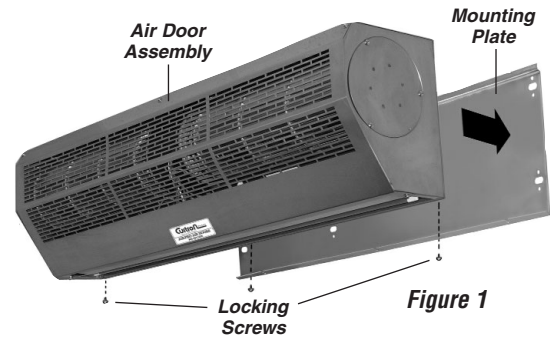

Figure 1
1. Remove the mounting plate locking screws from the back bottom corners of the unit and detach the mounting plate from the back of the unit. **Figure 1.**